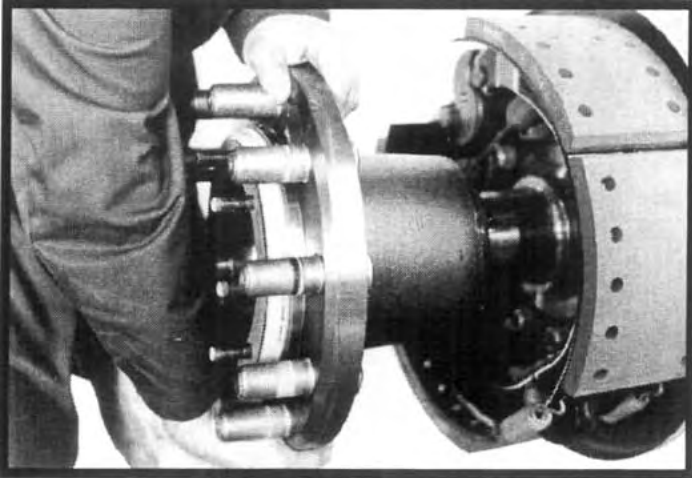

Figure 9
6. Remove the hub, initially attempting to pull the assembly straight off to avoid cocking the inner bearing cone. See Figure 9. If the cone binds against the spindle try rocking the hub to free it, but it may be necessary to use a pry bar under the inner surface of the hub. To avoid damaging the inner seal, pry against the hub only. If the inner bearing remains on the spindle when the hub is removed, use a suitable puller to remove it, pulling only against the bearing's race. Alternately, tap lightly on the race's outboard surface with a small drift to correct its misalignment and again attempt to remove it by hand.